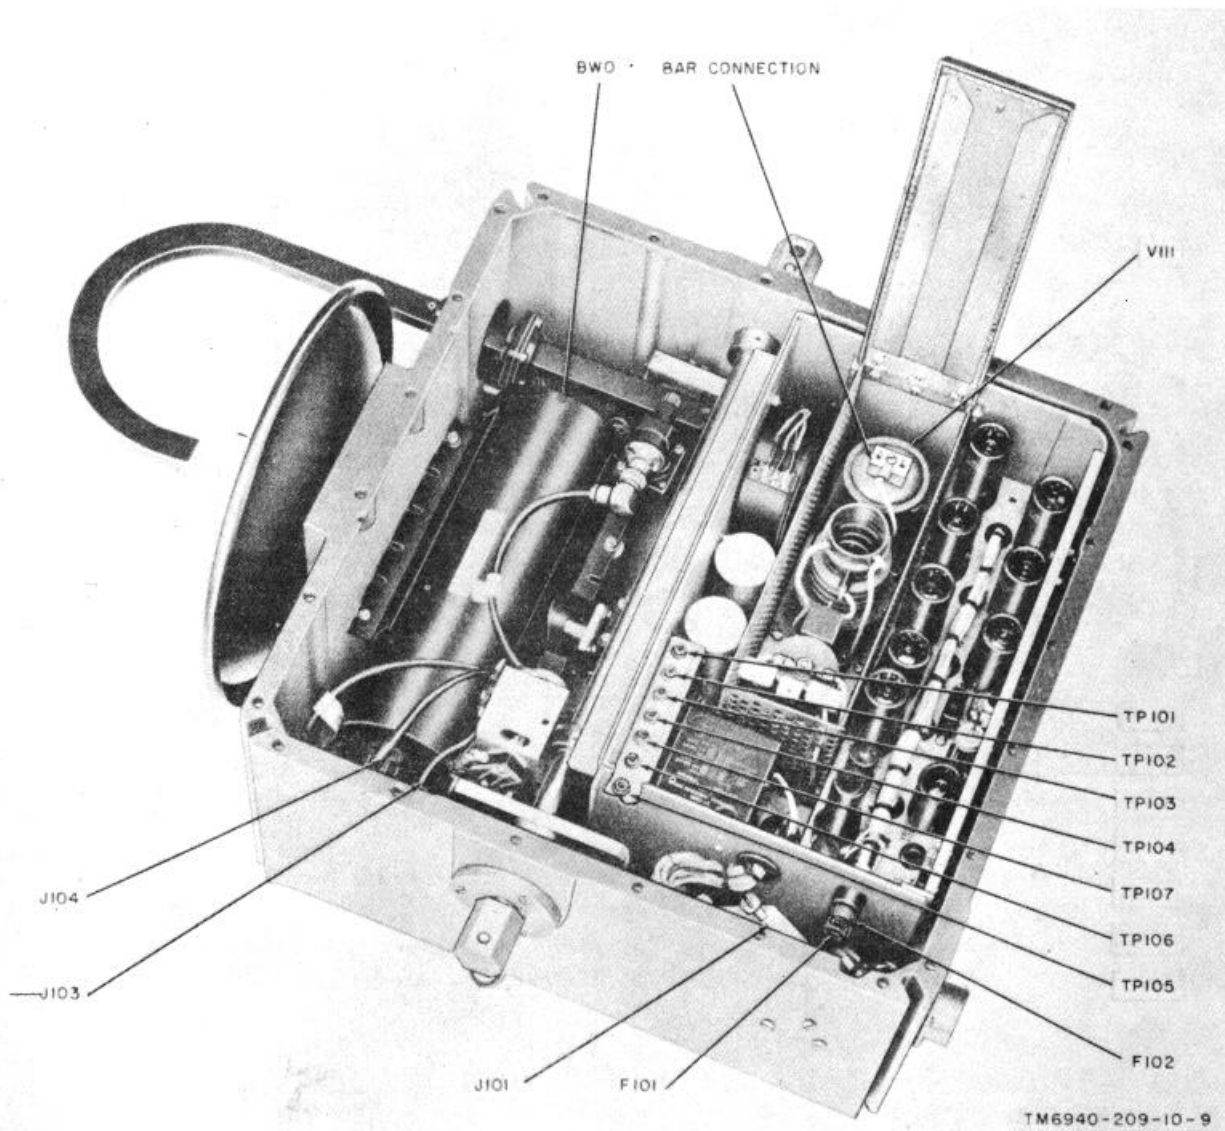
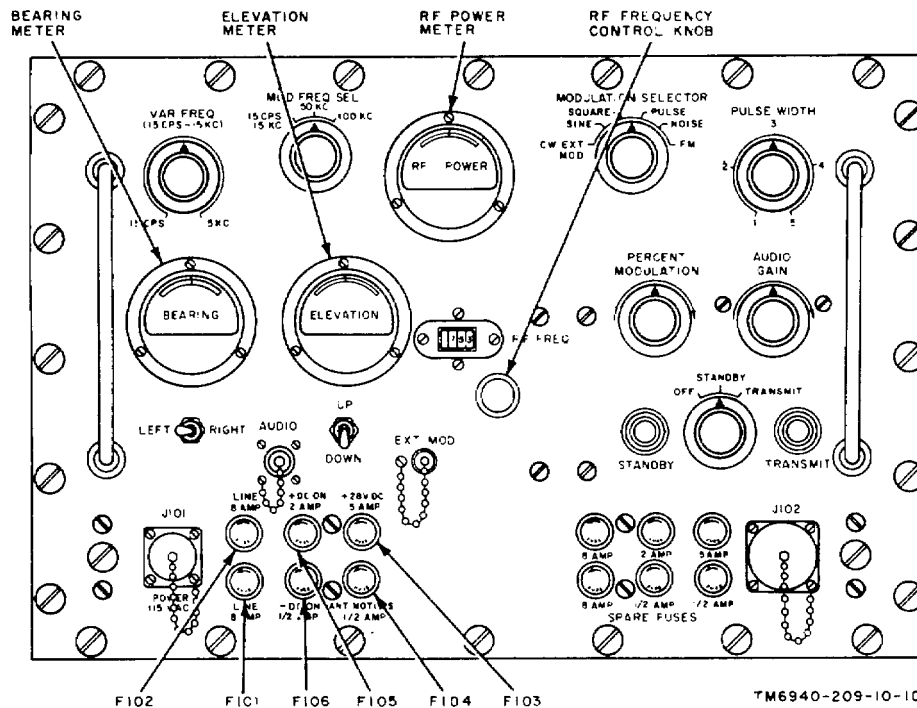

Figure 14. Transmitter unit, over removed.
Figure 15. Control, Trainer C-3671 AN/ULT-T5, control panel.
The radar trainer is shipped with all fuses installed. Check to see that the proper value fuses have been inserted in the fuse holders. All fuses except transmitter fuse F101 (fig. 14) are available on the control unit front panel (fig.15). To gain access to transmitter fuse F101, remove 24 captive screws which secure the transmitter cover, and remove the transmitter cover. The following chart lists all the fuses used in the equipment, provides the rating of each fuse, and locates the fuse by figure reference:
a. Set the OFF-STANDBY-TRANSMIT power switch to OFF (fig. 15).
d. Remove jacks J103 and J104 from the BWO tube (fig. 14).
l. Connect jacks J103 and J104 to the BWO tube (fig. 14).
a. Set OFF-STANDBY-TRANSMIT switch to OFF (fig. 15).
b. Remove jacks J103 and J104 from the BWO tube (fig. 14).
c. Set OFF - STANDBY- TRANSMIT switch to TRANSMIT (fig. 15) and allow a 2-minute warmup period.
g. Set MODULATION SELECTOR control (fig. 15) to all positions. Be sure that the switch detents properly when rotated and that no fuses blow when switching from one position to another.
l. During the 2-minute warmup period, be sure the voltage at test point TP107 (fig. 14) is +28 volts with respect to the chassis. At the end of the 2-minute warmup period, the voltage should read zero, STANDBY light (fig. 15) should go off, and TRANSMIT light should go on.
n. Check to see that the voltage at test point TP102 (fig. 14) is approximately +110 volts with respect to the chassis.
p. Measure the voltage at test point TP101. This voltage should be approximately the same as that measured at jack J103. If there is no voltage at jack J103, check fuse F101 (fig. 15).
r. Raise the hinged. cover of the high voltage cage and remove the bar connection on top of tube V111 (fig. 14).
z. Set OFF-STANDBY-TRANSMIT switch to TRANSMIT. After a 2-minute warmup period, observe the RF POWER meter on the control panel (fig. 15). If there is no indication, turn the RF FREQ control knob. If this does not produce a reading, set the OFF-STANDBY-TRANSMIT switch to OFF and request higher echelon maintenance.
a. Set OFF-STANDBY-TRANSMIT switch to STANDBY (fig. 15).
a. Set OFF-STANDBY-TRANSMIT control to TRANSMIT (fig. 15) and allow a 2-minute warmup period.
#### 34. Controls and Indicators (fig. 15)
- a.* Set the MODULATION SELECTOR switch (fig. 15) for the desired type of modulation.